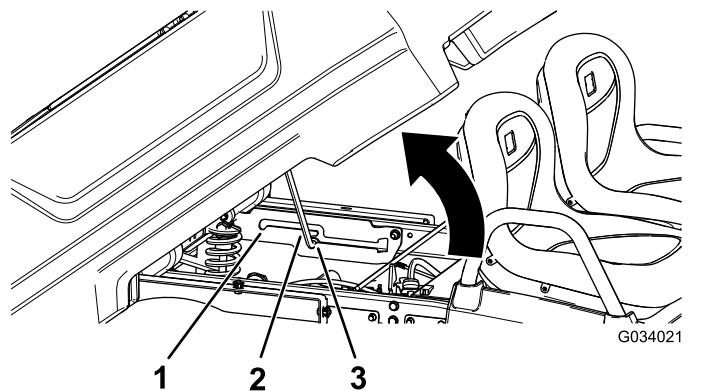

Figure 13
2. Pull the prop rod into the dump position detent slot to secure the bed for dumping (Figure 13).
2. Pull prop rod into the service position detent slot to secure the bed for maintenance (Figure 13).
2. Pull the prop rod out of the detent slot (Figure 13).